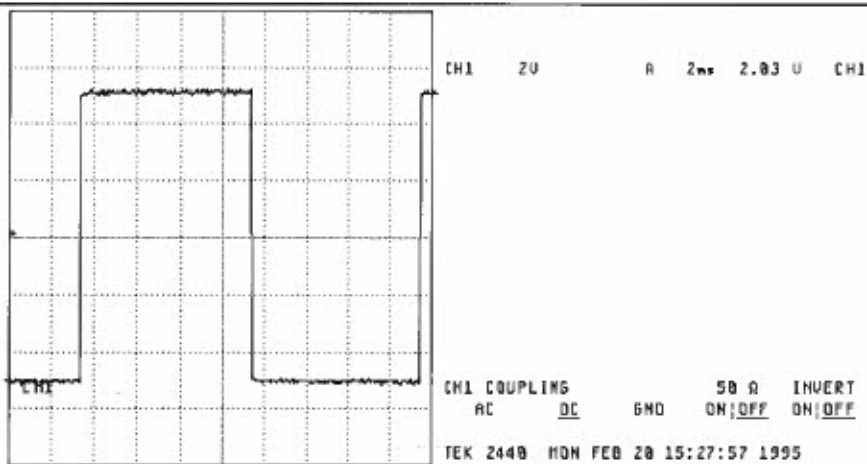
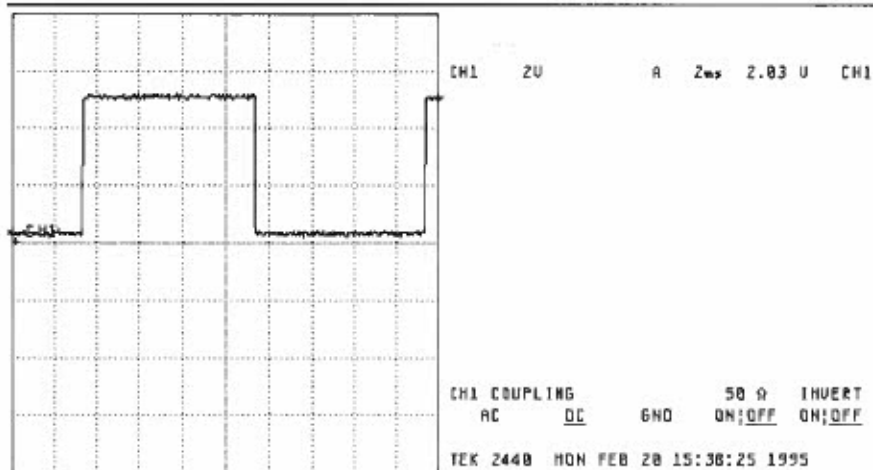

Figure 3
Figure 4
- p. RECEIVE CHECK: Connect 60Hz square wave as illustrated in FIGURE 3 to TP30(+) and TP31(-). Using oscilloscope, monitor TP32 with respect to COM and the output should be the same as illustrated in FIGURE 4. Monitor JR21 with oscilloscope and the output will be that as illustrated in FIGURE 4. Turn off the DC power supply and the waveform on JR21 should disappear.